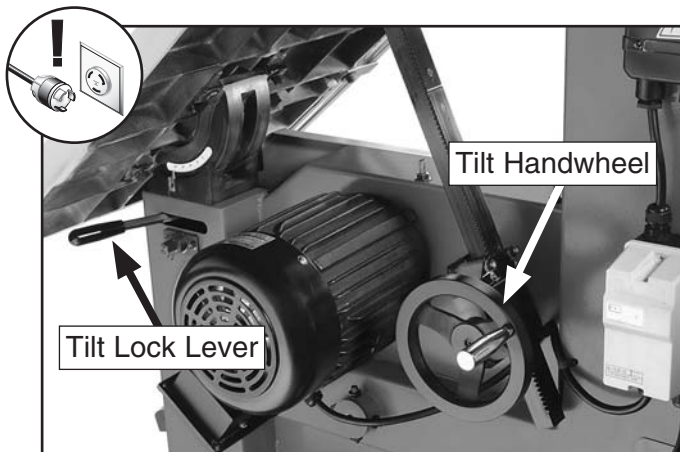

Figure 14. Table tilted up.
- Loosen the table tilt lock handle, then use the table tilt handwheel to raise the table (see **Figure 14**).